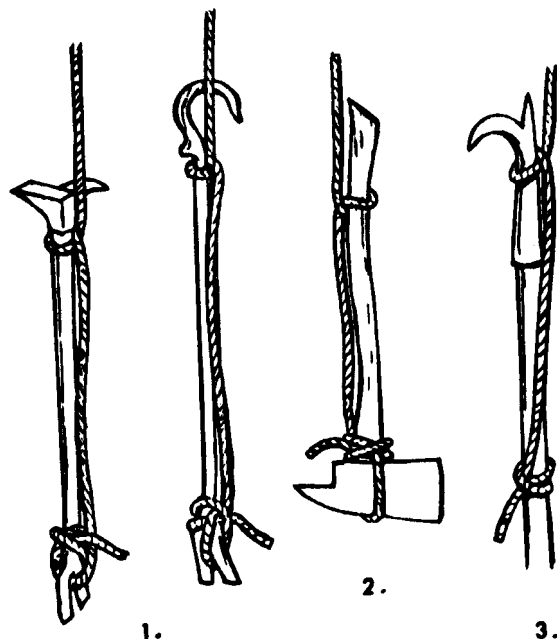

Figure 2-46. Tool hoisting hitch.
f. Tool Hoisting Hitch. Tools are usually secured by at least two knots (fig. 2-46) to hold them in a relatively stable position. Long heavy tools are generally hoisted with the heavy end up. Tools with hooks or sharp 'projections, such as an ax, are hoisted in a position in which they will not catch on projecting ledges.